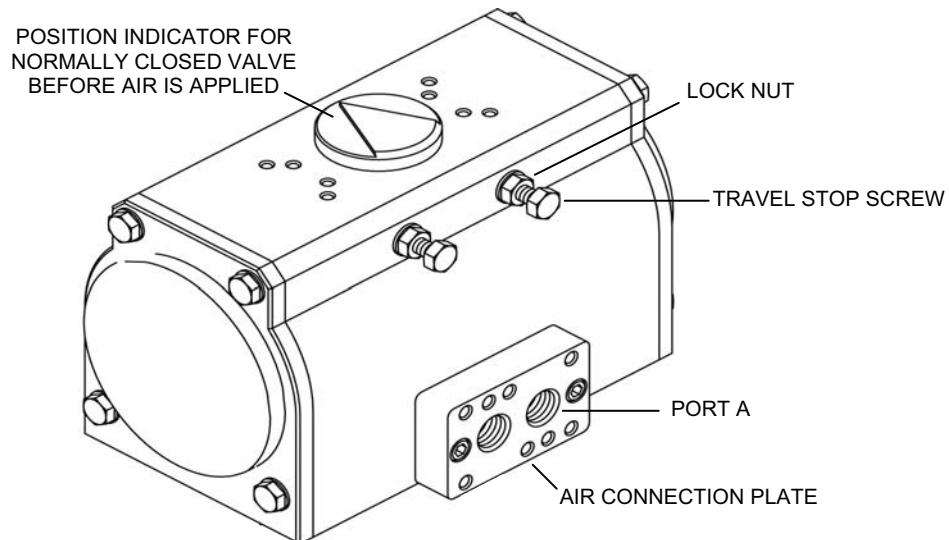

Figure 24. Actuator Travel Stops.
- m. Set the actuator travel stops as follows (see Figure 24):